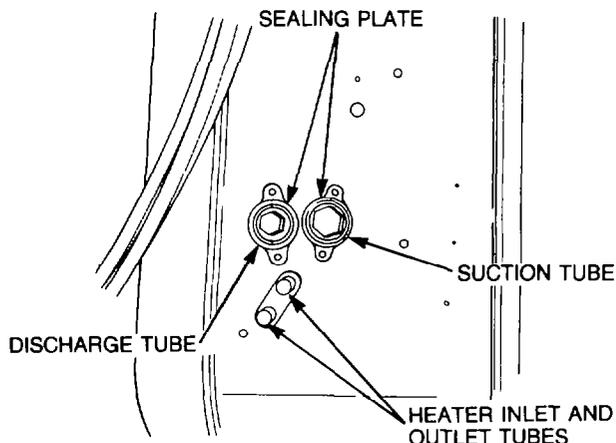

Figure 327 — Sealing Plates
- m. Remove the two screws securing the heater inlet and outlet tubes to the firewall in the cab, then remove the four screws securing the refrigerant suction and discharge line sealing plates and grommets to the firewall (see Fig. 327).